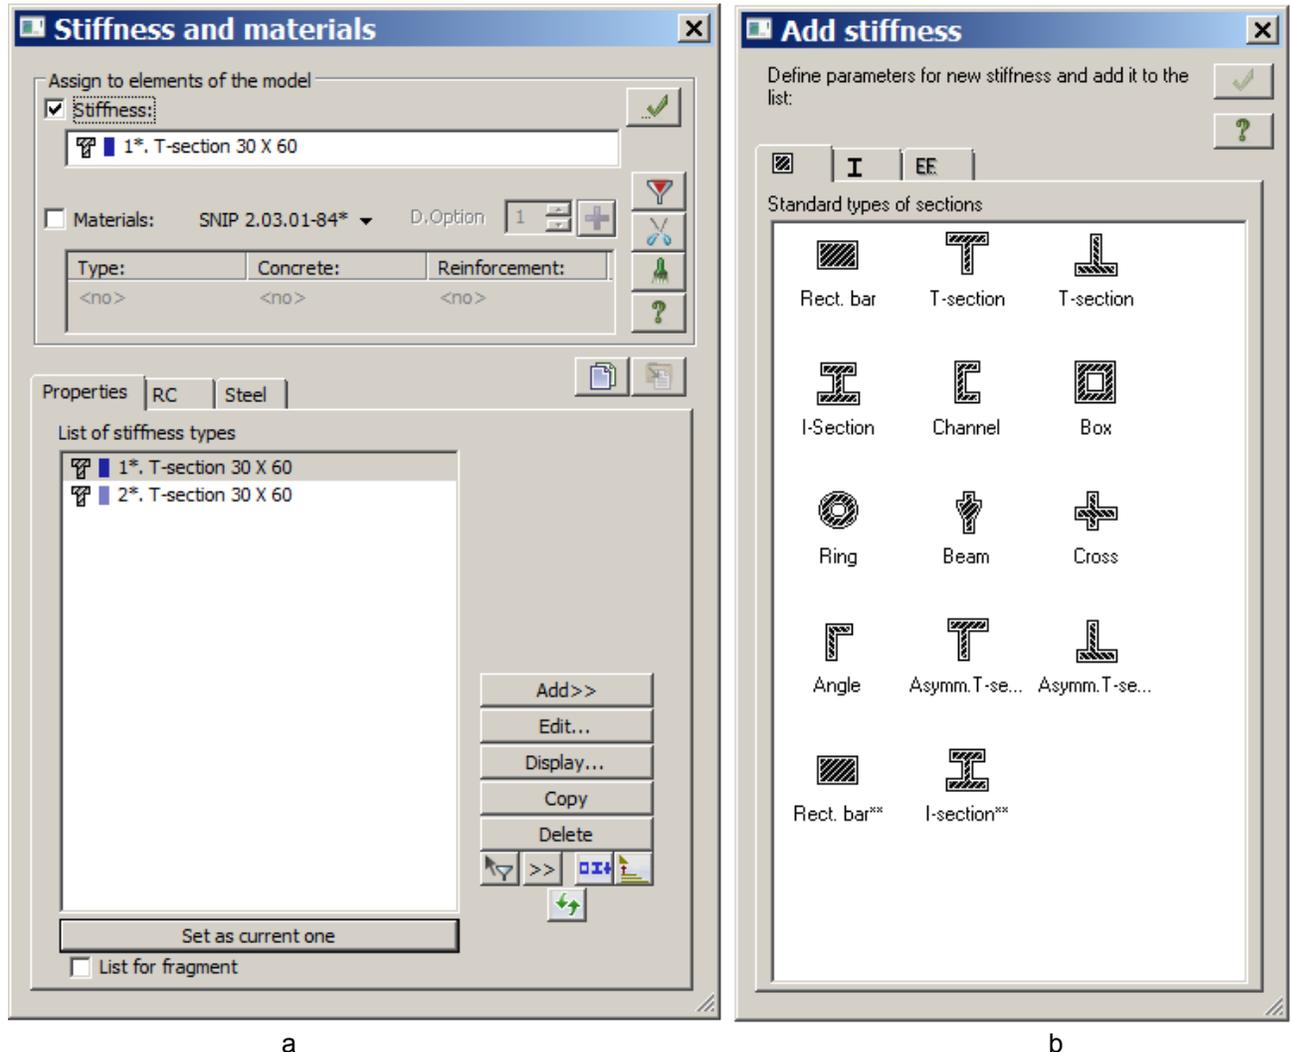

Figure 7.11 Dialog boxes: a – **Stiffness and materials**, b – **Add stiffness**
- ⇒ In the **Stiffness of elements** dialog box (see Figure 7.11), in the **List of stiffness types**, select '1*.T-section 30x60'.